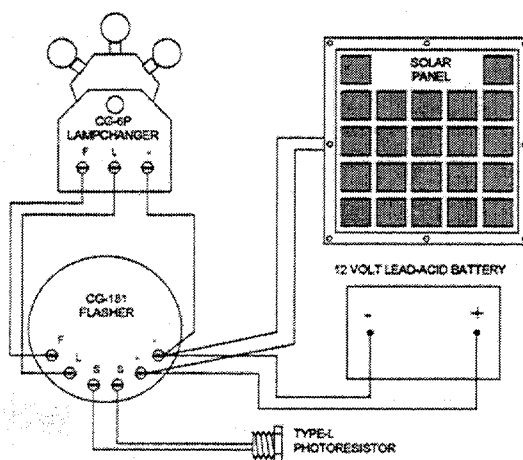

Figure 1.
- A. Minor Aids. A typical solar powered minor aid to navigation (figure 1) consists of the standard lighting hardware (lantern, lampchanger, flasher, lamps), a 10, 20 or 35-watt solar panel and single or multiple 12-volt, 100-ampere-hour (ah) photovoltaic batteries. Most minor aid sizings are already calculated and listed in the Solar Sizing Tables in chapter 8. Some ranges and minor aids using fixed burning lamps in range lights or rotating beacons require larger (> 300-ah) battery banks and will typically use components listed in the next sections. COMDTINST M16500.3A provides detailed information on these components.